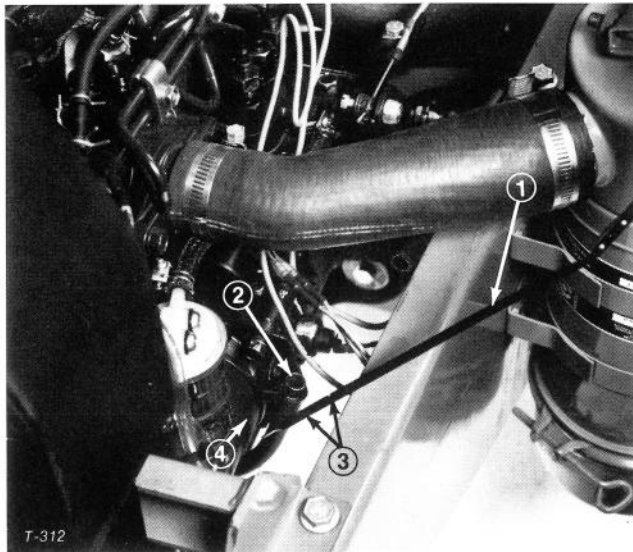

Figure 45
4. Remove oil drain plug and allow oil to flow into drain pan. Remove and replace oil filter (Fig. 45); refer to parts catalog for part number.